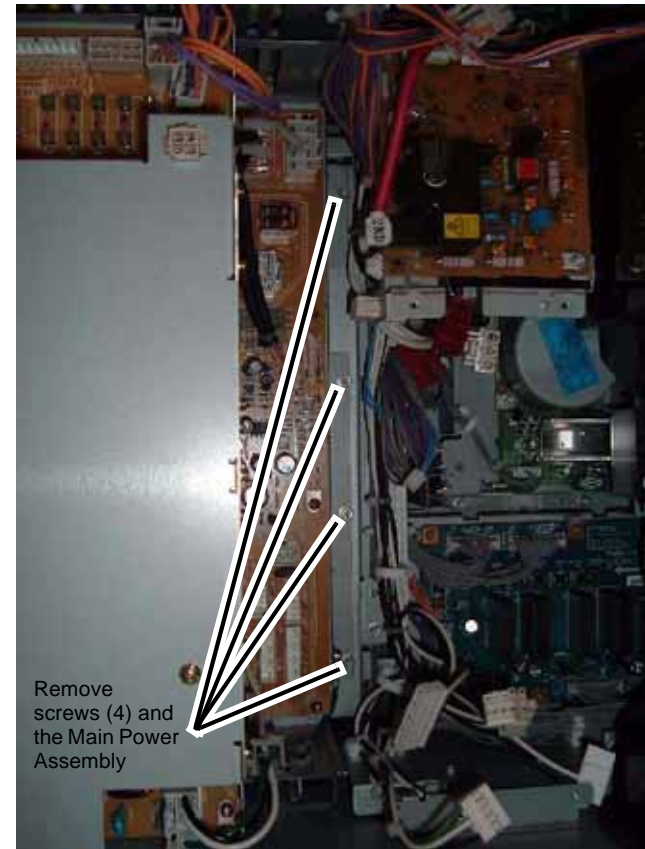

Figure 6 Removing the Power Unit
9. Remove the Power Unit (Figure 6).